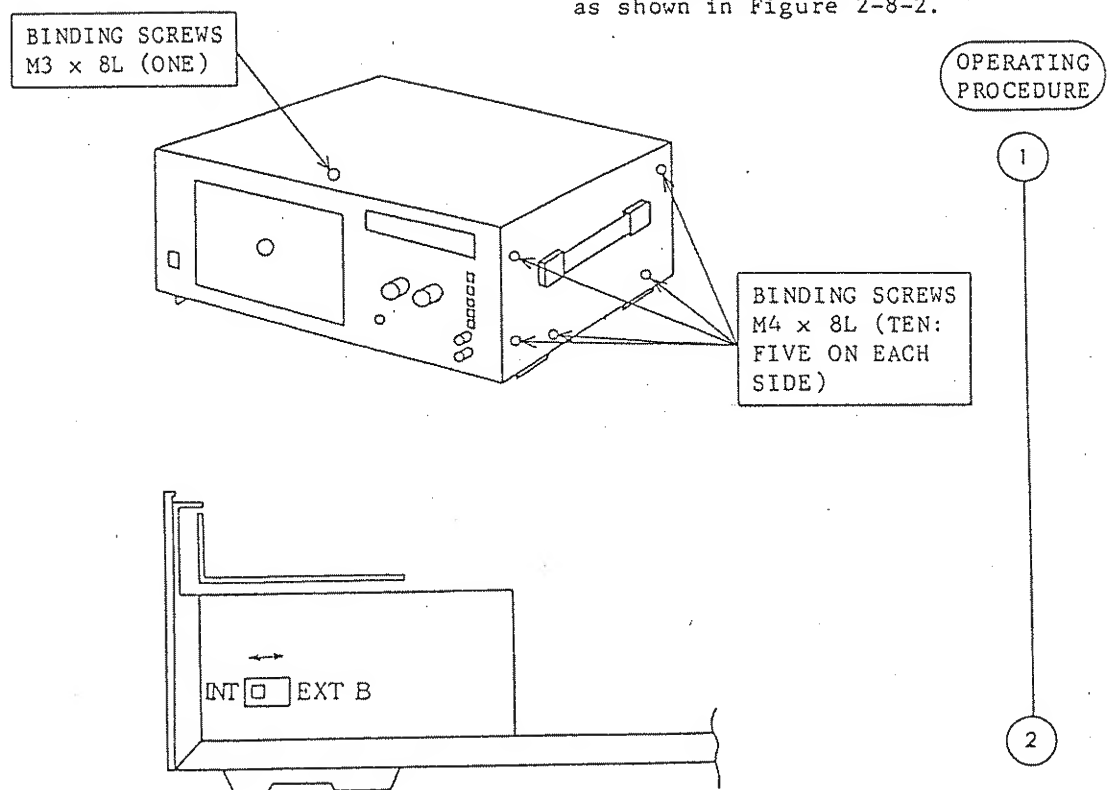

Figure 2-8-2 Slide switch setting
- (1) To set the Load to the EXT LOAD B mode, remove the case cover and change the internal slide switch as shown in Figure 2-8-2.
When in the constant resistance mode, the Load can be remote-controlled with an external resistance signal. For this operation, set the internal slide switch referring to Figure 2-8-2.